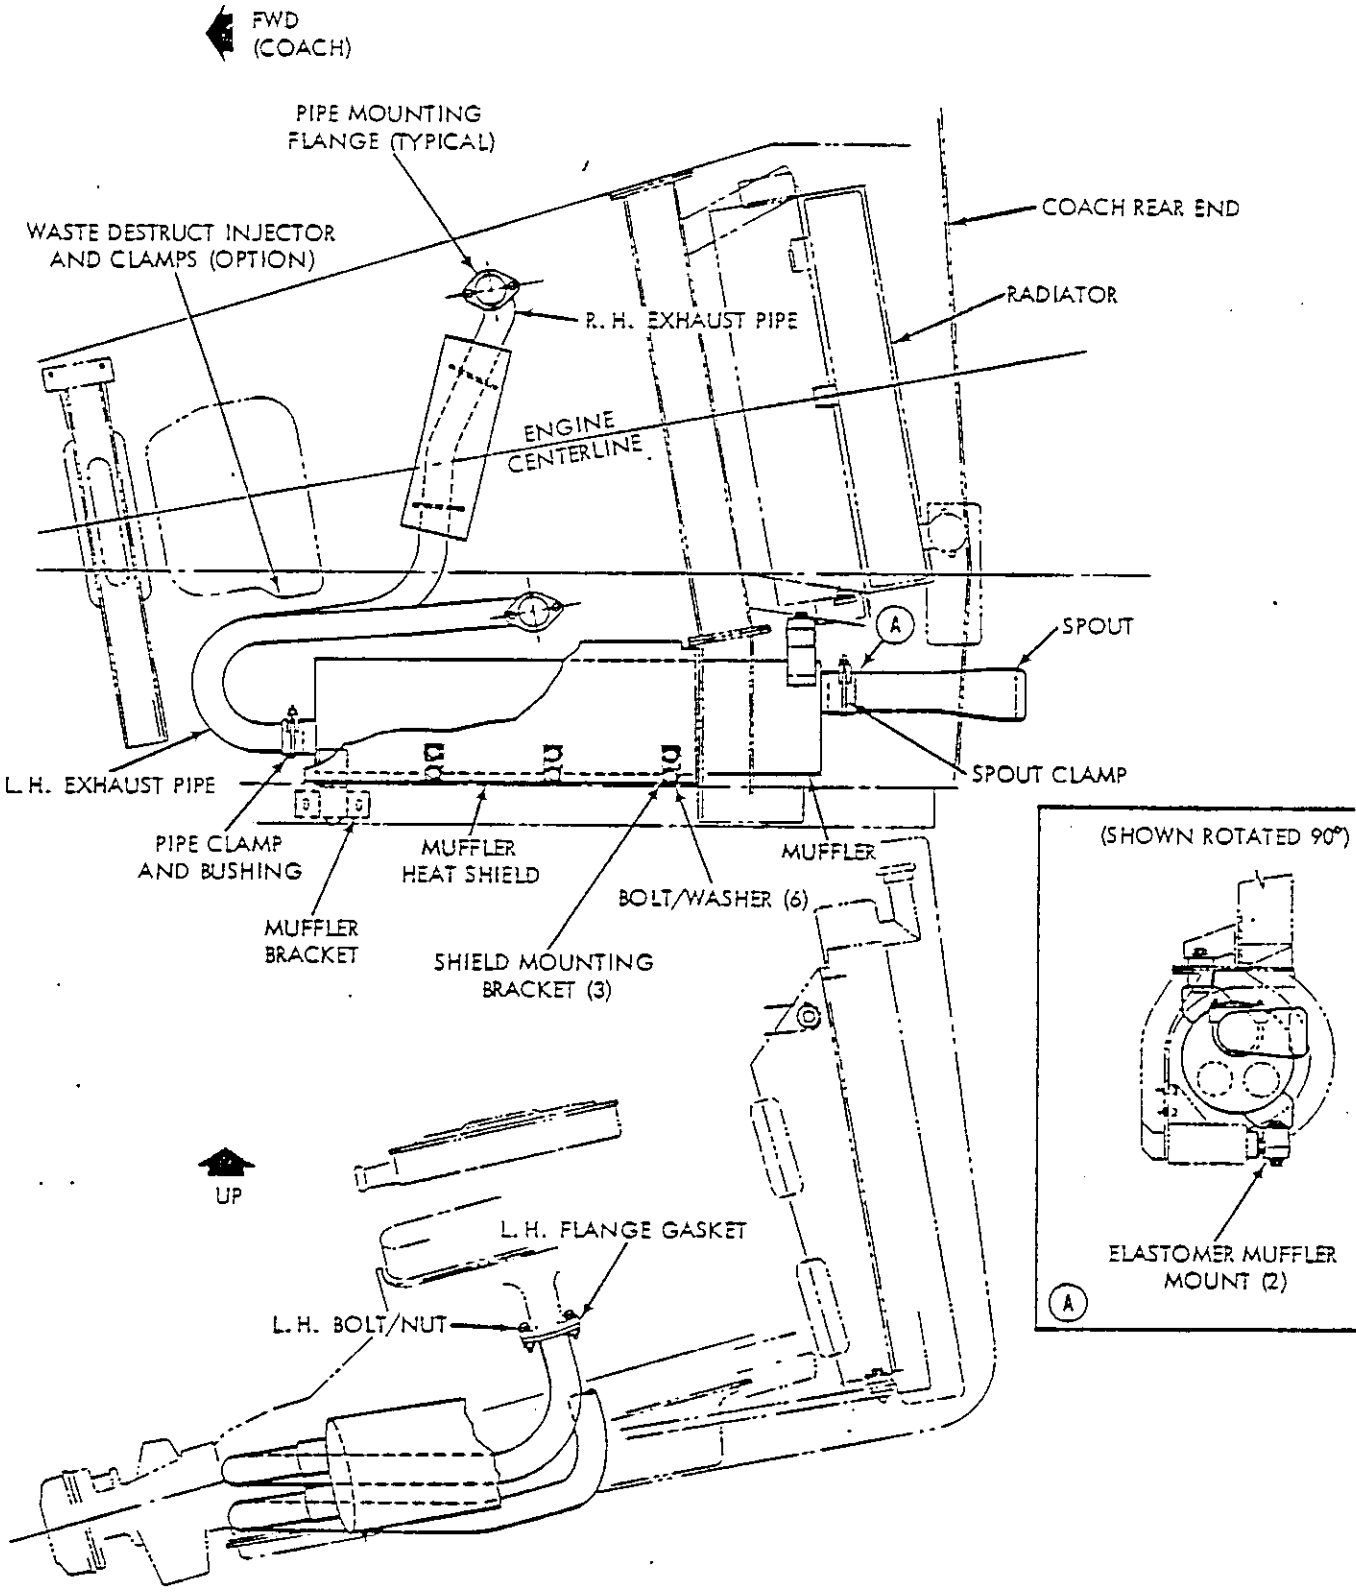

Figure 12-1. Exhaust system
a. General (fig. 12-1). The engine exhaust system consists of two exhaust pipes (left and right-hand) that conduct exhaust gasses from the left-hand and right hand engine exhaust manifolds to the muffler for emission through a rear-mounted spout (tail pipe). The system is suspended by brackets and elastomer mounts. A Waste-Destruct System injector is installed as an option on some coaches in the right hand exhaust pipe just forward of the muffler; refer to Group 35 for servicing the waste-destruct components.
a. General (fig. 12-1). Step-by-step instructions for replacement of the exhaust system components are provided in this section. Replacement parts should be procured from those listed in the 2900R Parts Catalog. A torque wrench is required for correct tightening of all nuts. Apply penetrating oil to all corroded nuts, bolts, and clamps before loosening.
(1) Loosen muffler upper inlet clamp and slide it aft onto muffler inlet tube.
(2) Remove two bolts and nuts, then remove exhaust pipe and gasket from left-hand engine manifold.
(3) Pry exhaust pipe and the clamp bushing out of muffler inlet tube.
(4) Move exhaust pipe rearward and up past engine.